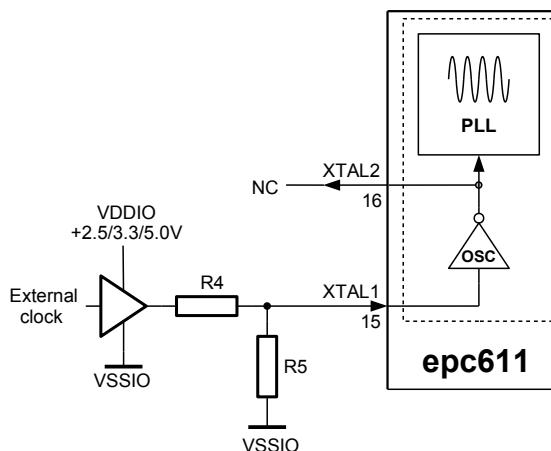

Figure 14: Resistor divider to adjust clock levels to  $V_{DDPLL}$
2. Instead of a crystal, an external 4 MHz clock source can be connected to XTAL1. XTAL2 output pin left unconnected. The input clock signal level must match  $V_{DDPLL}$  supply level (see Table 1). If the external clock source voltage domain is above 1.8V, a resistor divider adapts it e.g. in Figure 14 and Table 12.